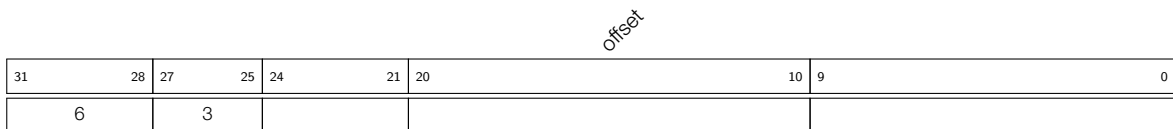

Figure 1-11. Instruction Type - Offset in Automatic Storage Mode (ST-OFFSET)
**Operand Description** - see Figure 1-11